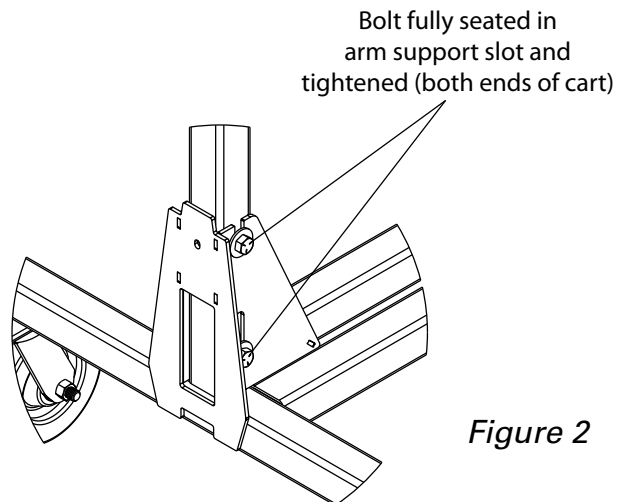

Figure 2
4. Ensure the top bolt is fully seated in the arm support slot and completely tighten all 4 bolts prior to use (See Assembly Figure 2).